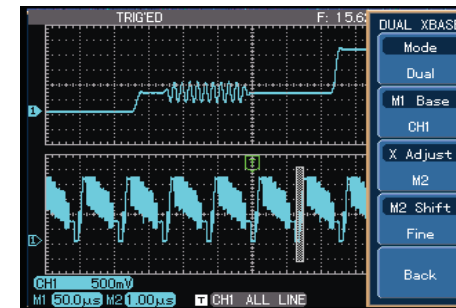

Figure 3-13 Dual time base function
4. Press [F1] to select dual time base, then press [F2] to select CH1. Press [F3] to set time base magnitude to M1. Adjust the M1 time base range with the **SEC/DIV** knob as shown in Figure 3-13. Then press [F3] to select M2 and adjust the M2 time base range with the **SEC/DIV** knob as shown in Figure 3-13.